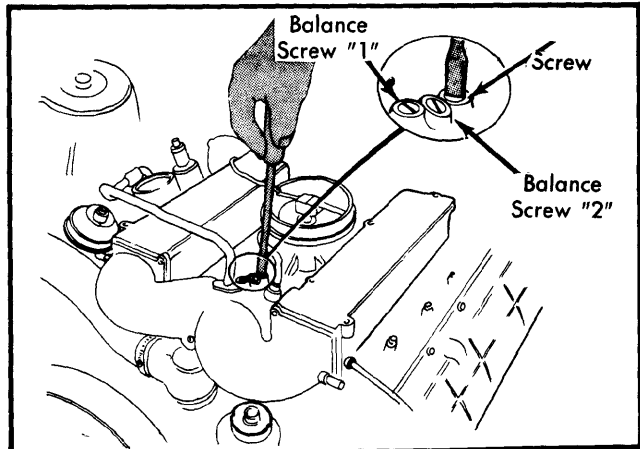

Fig. 5 Idle and Mixture Adjusting Screws
- 5) To check CO balance between left and right cylinder banks, proceed as follows: Turn dual probe adapter toward left cylinder bank and check CO reading. If left bank CO level is not within specifications, correct by removing balance screw plug and adjusting balance screw "2". See Fig. 5.
6) Turn dual probe adapter toward right cylinder bank and check CO reading. If right bank CO level is not within specifications, correct by removing balance screw plug and adjusting balance screw "1". See Fig. 5.